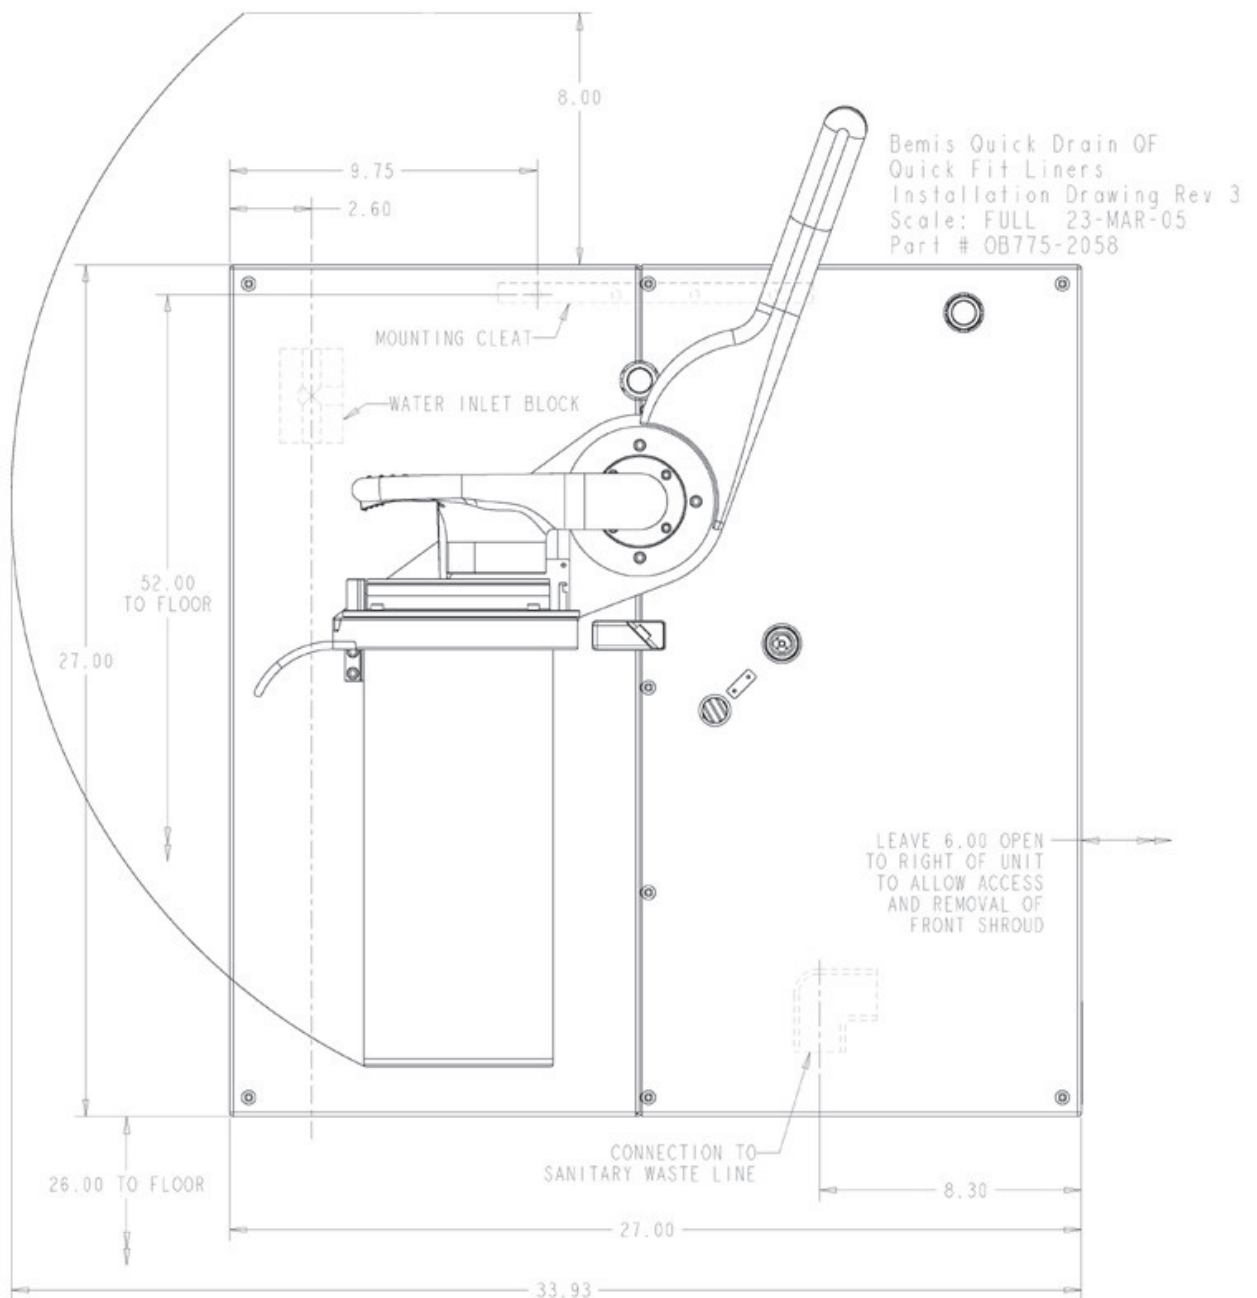

Figure 1: Quick-Drain-QF Installation Dimensions
- ♦ an area of open wall space per figure 1
1. Select a place for the Quick-Drain to be installed, preferably an area isolated from patient contact and treatment. Refer to Figure 1 or 2 (depending on model) for typical dimensions used and the required wall footprint.
4. Take the component bag out of the box inside the crate. Remove the hanging cleat and mount as shown in Figure 1 or 2 (depending on model). Use appropriate fasteners so that the hanging cleat can support at least 150 lbs.
7. A 1/2" water line can be run to the Quick-Drain from the top or bottom of the machine. (Reference Figure 1 or 2) When running the water line to the machine, place a water valve just before the Quick-Drain so that water can be turned off to the system if needed.